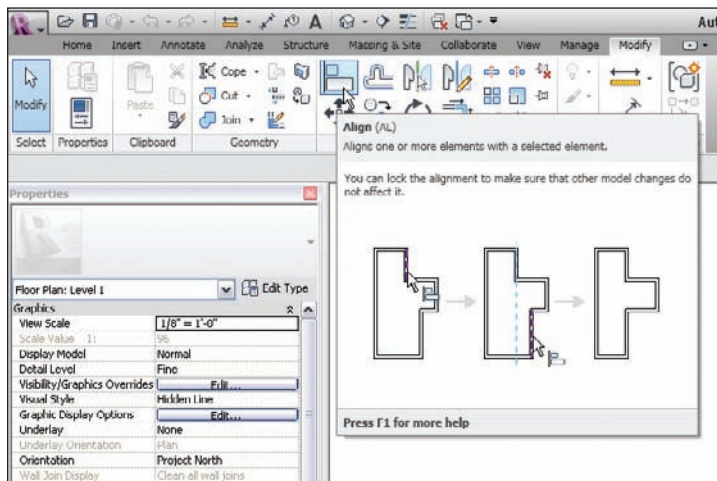

FIGURE 4.29 Select the Align button on the Modify | Place Window tab.
5. On the Modify | Place Window tab, select the Align button, as shown in Figure 4.29.